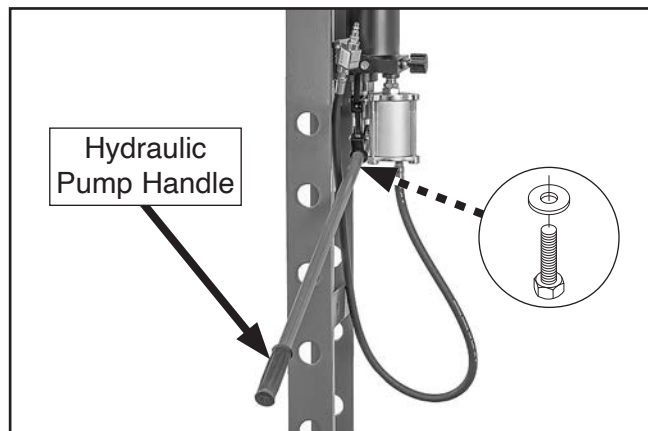

Figure 13. Hydraulic pump handle installed (bed removed for clarity).
18. Install hydraulic pump handle on hydraulic pump with (1) M8-1.25 x 16 hex bolt and 8mm flat washer (see **Figure 13**).